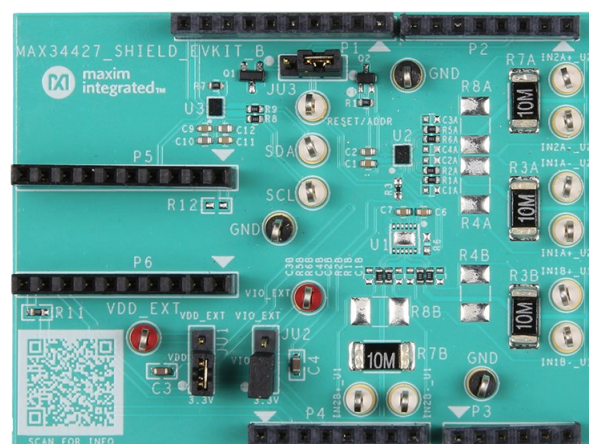
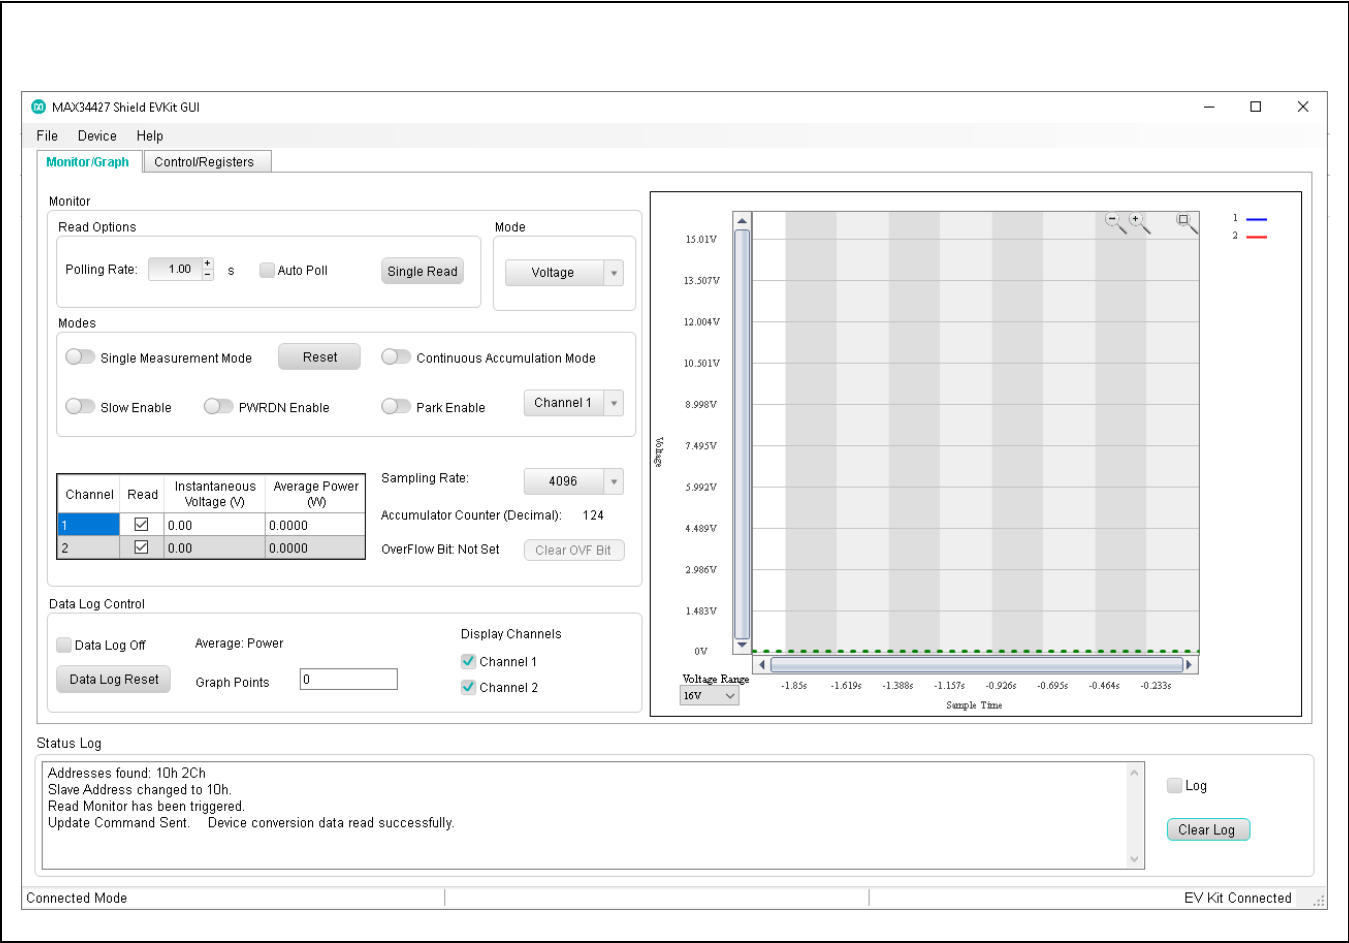

Figure 1. MAX34427Shield EV Kit Board Connections
Figure 2. MAX34427 Shield EV Kit GUI—Monitor Graph Tab
3. Connect the MAX32625PICO I²C circuit board to the EV kit at its location (Figure 1).
The **Monitor/Graph** tab (Figure 1) displays all the accumulator values. In the **Monitor** group box table, the Polled values are the Accumulator values read from PWR_ACC_1 and PWR_ACC_2 that are converted to amps using the **RSENSE** value in the **Sense Resistors** table on **Control/Registers** tab of the GUI (Figure 2). The **Instantaneous Voltage** and **Average Power** columns track the voltage and average power of the **Polled** value for each channel. The **Current** option can be selected from the **Mode** drop-down menu to see the **Average Current** column track the current of the **Polled** value for each channel. All values on the tab are read when the tab is selected or when the **Read** button is clicked. The **OC** status bits are cleared after every read. Check the **Auto Poll** checkbox to continuously read with the **Polling Rate**.
The Control/Registers tab (Figure 2) displays all the SMBus commands and their current values. In the Control group box table, the **RSENSE (mΩ)** column is the value of the resistor (R3X–R4X) between IN_P and IN_N signals. The **Max Current (A)** column displays the maximum current threshold converted to amps using the **RSENSE** value.